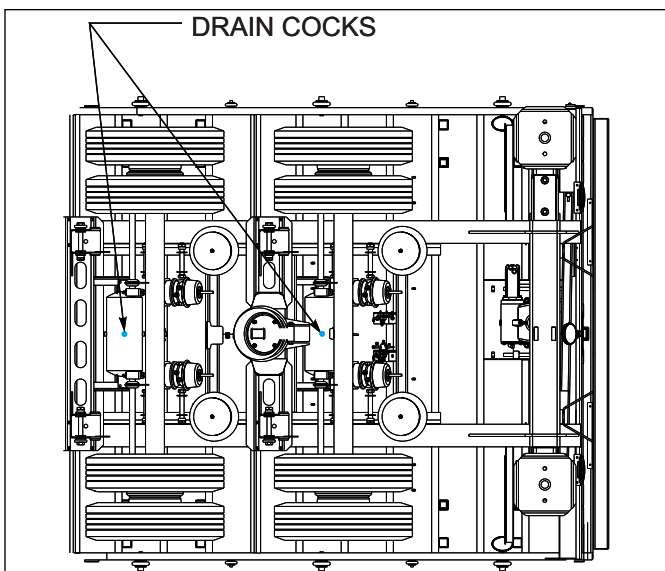

Figure 4-12: Drain Cock Locations
4. Drain air reservoir daily. A drain cock on the bottom of each air reservoir vents the tank to drain collected water and oil. If held open, air pressure in the tanks is relieved, causing the emergency or parking brakes to be applied (*See Figure 4-12.*)